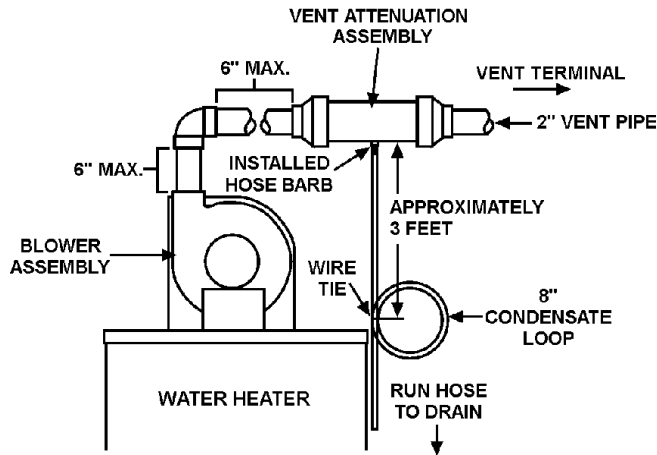

FIGURE 23: Typical Horizontal Installation
2. Use standard PVC cement (not included with kit) and glue the two inch PVC pipe coming from the blower into the VAA. Make sure the 1/2" fitting is on the bottom side of the VAA. This will be used to run the condensate hose to a suitable drain. See typical vent installation in Figure 23.